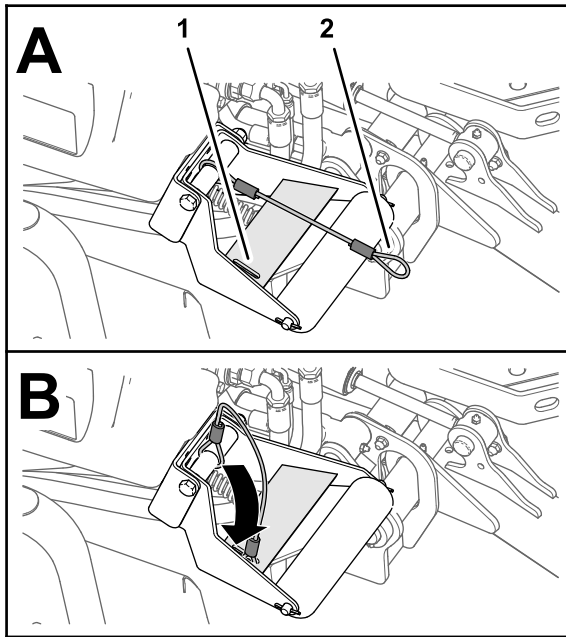

Figure 72
- With the cutting units lowered, slip the loop of the lanyard into the slot in the reinforcement plate of the roller support (Figure 72).